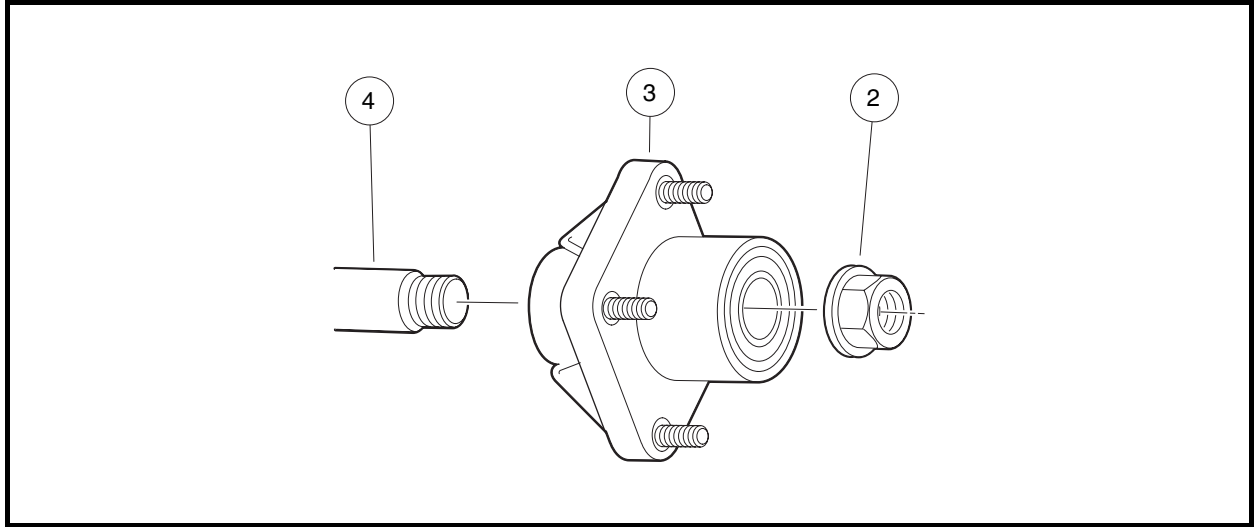

Figure 7-21 Front Wheel Hub
2. Remove dust cap (1) and lock nut (2) (**Figure 7-21, Page 7-20**).
3. Slide the hub assembly (3) off of the spindle shaft (4).
2. Slide the hub assembly (3) onto the spindle shaft (**Figure 7-21, Page 7-20**).